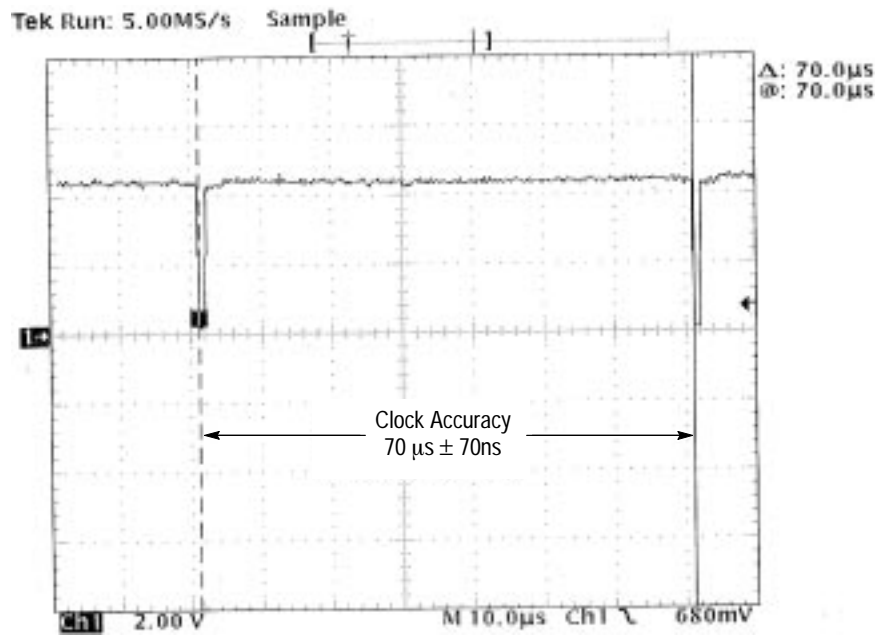

Figure 455-8: Clock Accuracy
4. Measure the time on channel 1, between the falling edge of one pulse to the falling edge of the next pulse. A measurement of $70 \mu\text{s} \pm 70 \text{ ns}$ indicates that the clock and dividers are working properly. Refer to Figure 455-8.
9. Measure the time on channel 1 between the falling edge of one pulse to the falling edge of the next pulse. Refer to Figure 455-8 to verify a measurement of $70 \mu\text{s} \pm 70 \text{ns}$. This measurement indicates that the clock and dividers are working properly. .
Ignore the overshoot and ringing on the peaks of the pulses when measuring the peak-to-peak amplitude of the 1553 message on channel 2. Refer to Figure 455-8 to verify the peak-to-peak measurement.